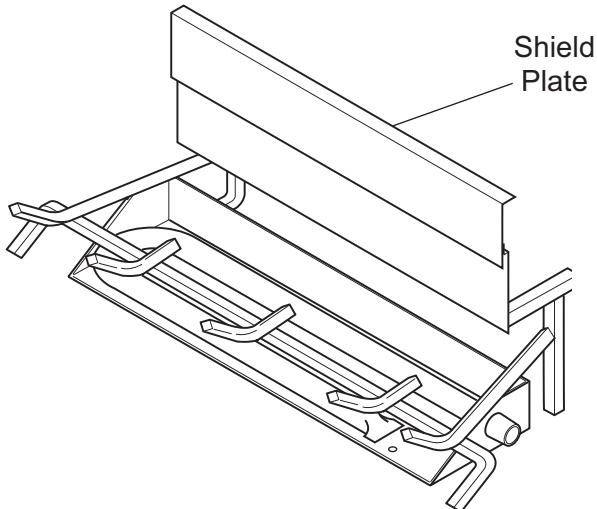

Figure 76 - Sliding Shield Plate Down Back of Burner Pan
1. Slide shield plate down back of burner pan. See *Figure 76*.